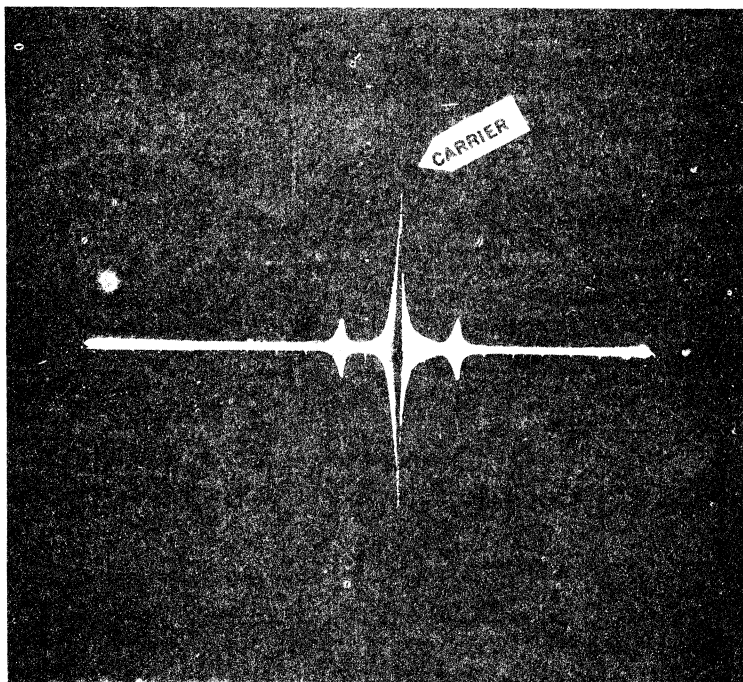

Figure 2-19. Typical Frequency Spectrum
a. The incidental frequency modulation present in R.F. Signal Generator Set AN/URM-25C is negligible. Figure 2-19 shows a typical carrier and a single pair of sidebands when modulated from 0 to 50% over the entire signal generator frequency range.